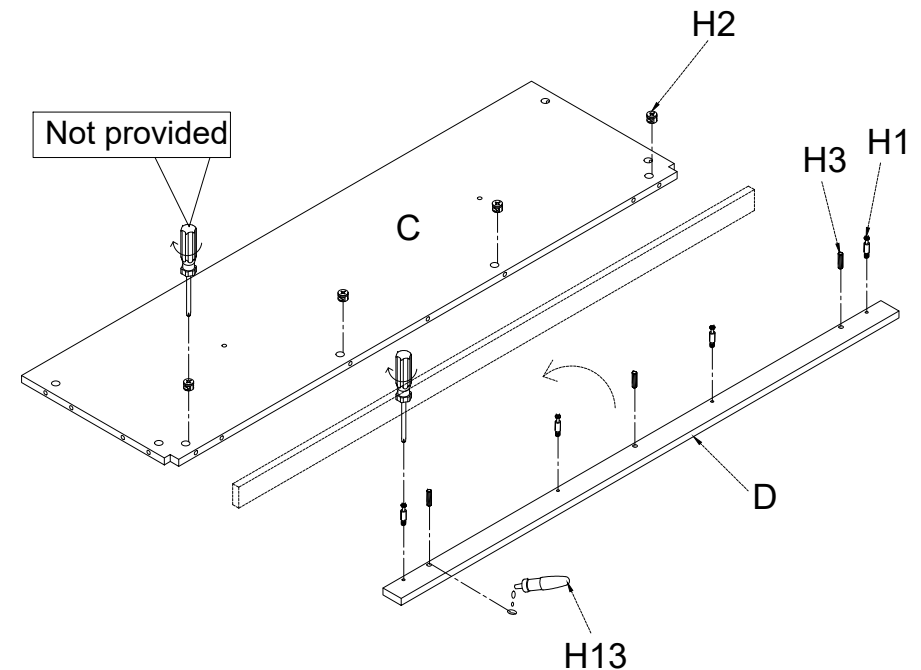

Figure 7
Place Base (C) and Base rail (D) on a soft smooth surface with the holes facing up. Insert the Cam bolts (H1) into the holes of Base rail (D) as shown in figure 7. Place a small drop of Glue (H13) into the remaining holes of Base rail (D) and insert Short wood dowels (H3). Turn the Base rail onto the edge and slide the Cam bolt (H1) and Short wood dowel (H3) into the corresponding holes of Base (C) as shown in figure 7. Secure Base rail (D) to Base (C) with Cam lock (H2) using screwdriver (Not provided).